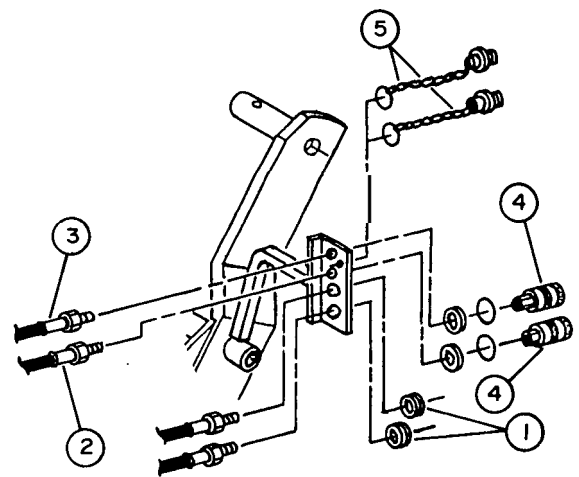

FIGURE 6
- d) Place two rubber grommets (fig.6, item 1) inside the two lower holes of the hose support, and route the two 1/4" hoses described below through the grommets.
- g) Place straight end of 62" hose (fig.6,item 2) through the hole second from the top of the coupler bracket. Place a nylon washer on the hose end, and install a female quick coupler (with the yellow I.D. ring over threaded portion) using thread sealant. Route the other end with the short bend to the valve, connecting to the fitting in the left hand front port.
- h) Place straight end of the 64" hose (fig.6, item 3) through the top hole of the coupler bracket. Place a nylon washer on the hose end, and install female quick coupler(fig.6, item 4)(with the green I.D. ring over threaded portion) using thread sealant. Route the other end with the short bend to the valve, connecting to the fitting in the left hand rear port.
- k) Install dust cap rings (fig.6, item 5) in small hole of coupler bracket.